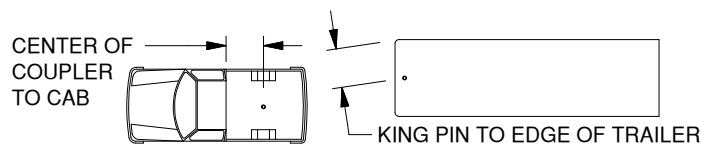

Figure A2: Truck and Trailer
- Evaluate clearance.** Determine if there is clearance between each truck and trailer combination before towing. Measure from the center of the coupler to the cab of the truck and from the king pin or pivot point of the trailer to the furthest forward corner of the trailer, see Figure A2. Compare these measurements to ensure proper clearance when towing. Also, inspect the clearance between the bed sides and the underside of the front of the trailer to ensure there is room for the pitch and roll of the trailer while towing.